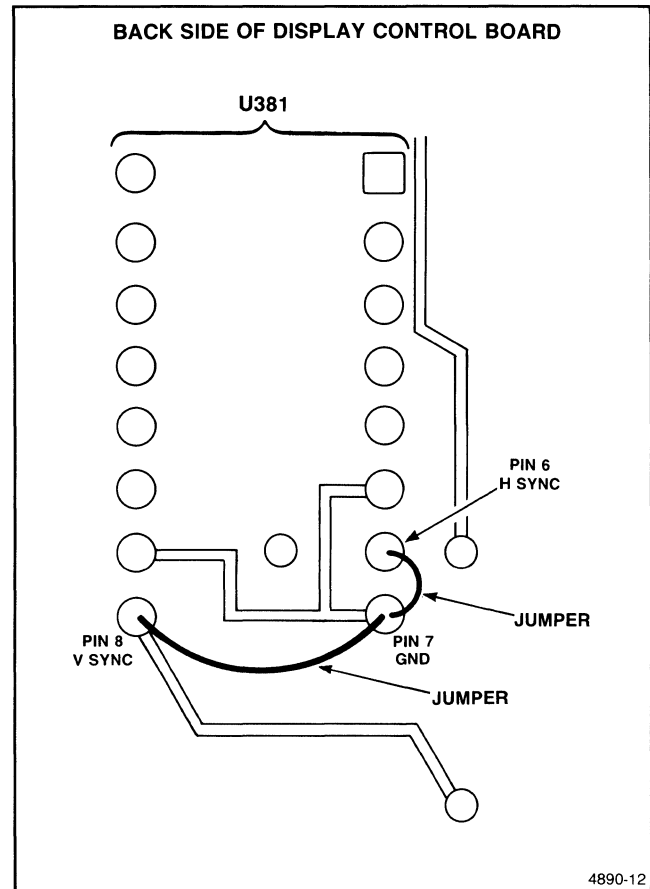

Figure 5-2. Jumpers on U381 To Remove Sync (Back Side of Display Control Board).
5. Use a jumper wire to short across pins 6 and 7 of U381 on the Display Control board (shown in Figure 5-2). Observe loss of sync on the screen. Then, remove the jumper wire and verify that sync comes back. If sync is not restored, adjust R155 accordingly.
9. Use a jumper to short across pins 7 and 8 on U381: refer to Figure 5-2 again. Observe the loss of sync on the screen. Then disconnect the jumper and verify that sync is restored. If sync does not come back, adjust R105 accordingly.